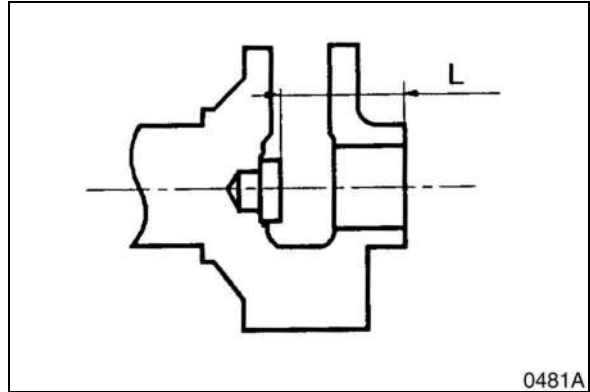

Figure 23
1. Distance "L" (Figure 23) between face of thrust button and end of outer bore of drive shaft should be 135 mm (5.315"). If not replace thrust button.